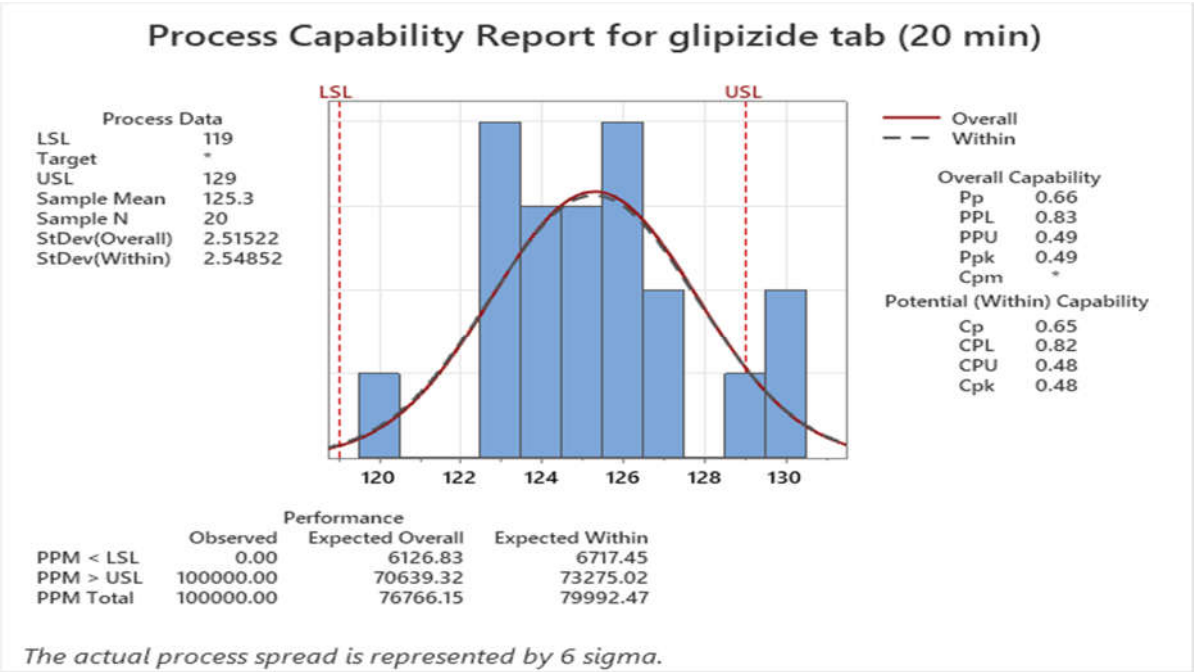

Fig. 2: Process Capability Report for glipizide tablets (20 min)
- Ensuring that processes **remain suitable and capable over time**, providing consistent assurance of their ongoing release. [10]. Process capability reports given in Fig: 2, 3 &4.